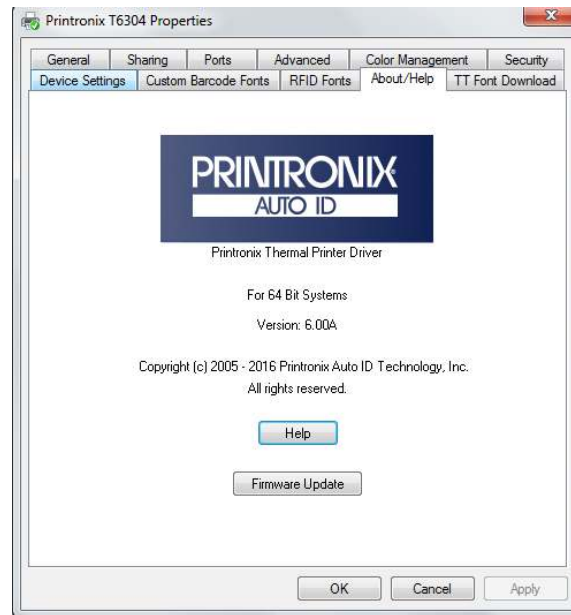

Figure 5 Updating Firmware
5. Click the **Firmware Update** button as in *Figure 5*.